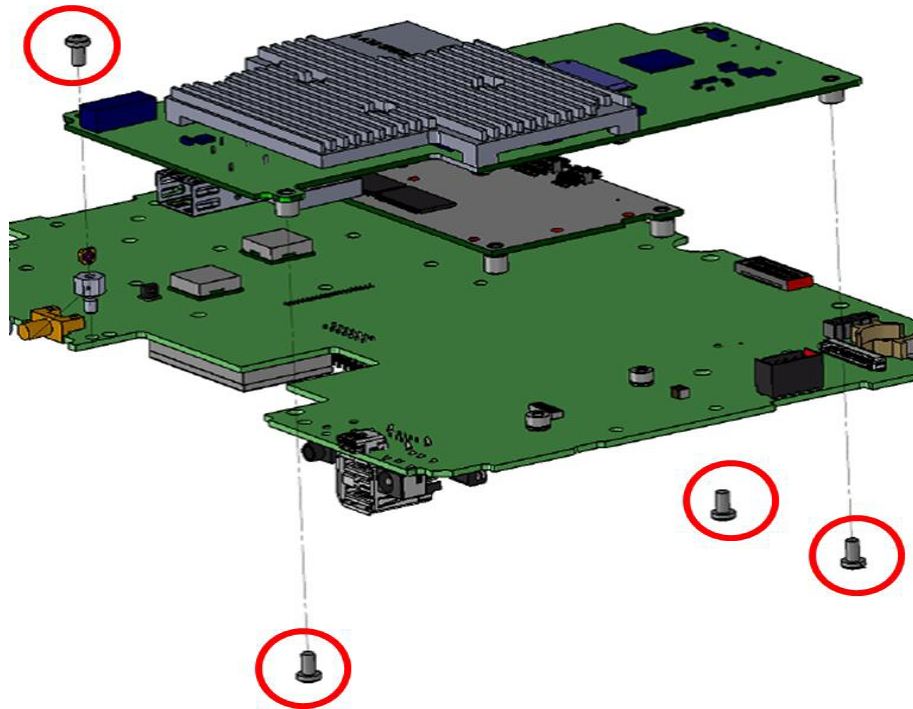

Figure 6-9. Remove Screws Securing Option PCB to Main PCB
4. Remove the screws securing the Option PCB to the Main PCB as shown in Figure 6-9.